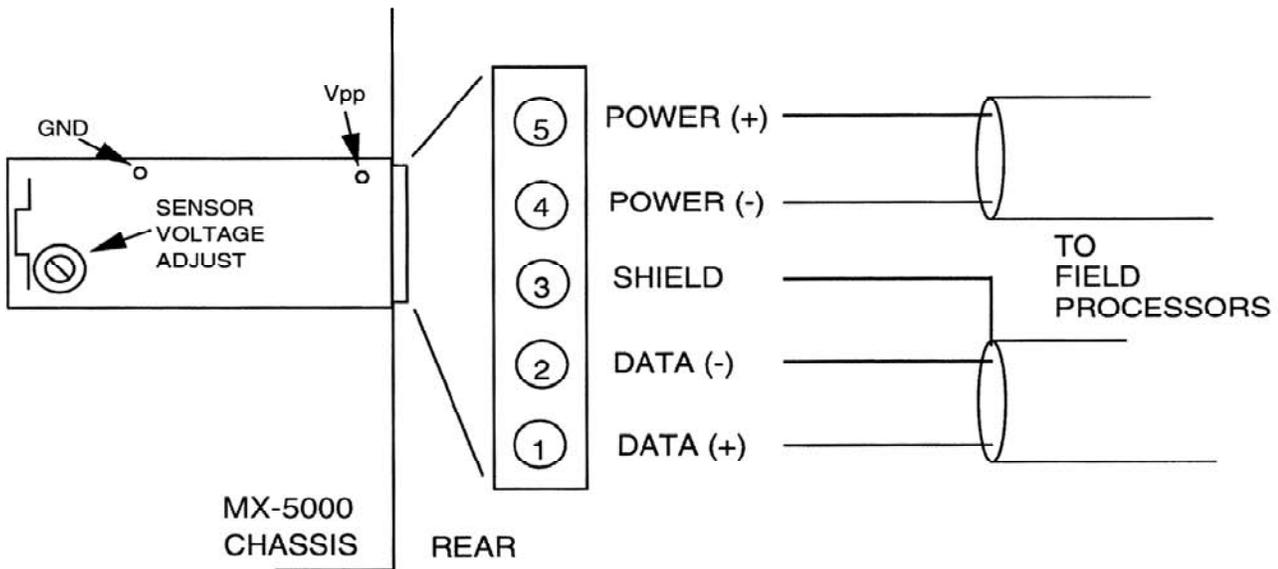
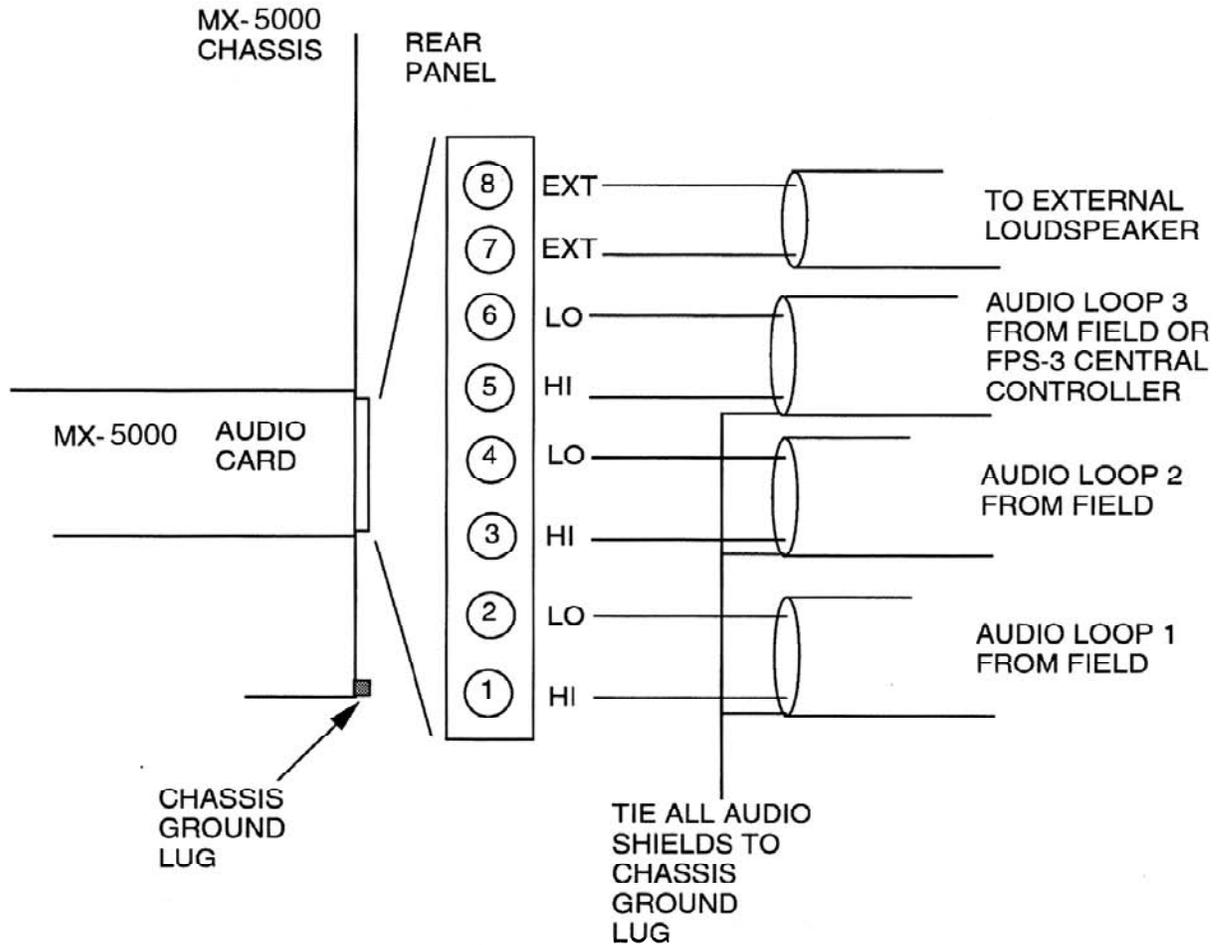

Figure 23. Processor Loop Connections
Figure 25. TB-2 Audio Input Connection
Figure 23 on page 42 details terminations of loop wiring. Figure 25 on page 43 details terminations of audio loop wiring.
- ▷ Using #18 twisted shielded pair cable connect the data terminals of the MX-5000 multiplex loop 1, terminals 1 (data+), 2 (data-), and 3 (shield) to the data terminals of the processor. Refer to the processor manual for the location of the appropriate terminals. Figure 23 shows the typical bus connections.
Measure the power supply voltage at the processor terminals. Adjust the sensor voltage adjust control on the loop card for +16 volts DC. Refer to Figure 23.